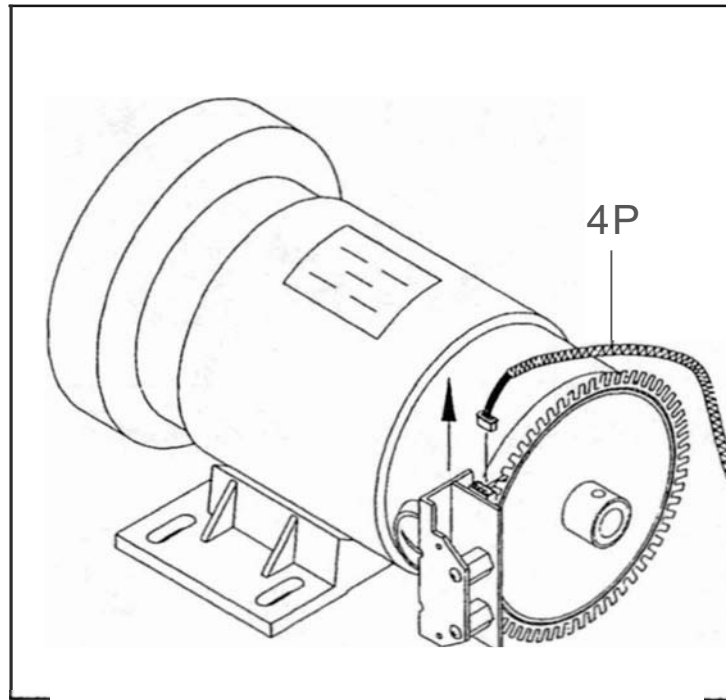

Fig.1
2. Unplug the 4 pin cable from optical switch board. (see Fig.1)